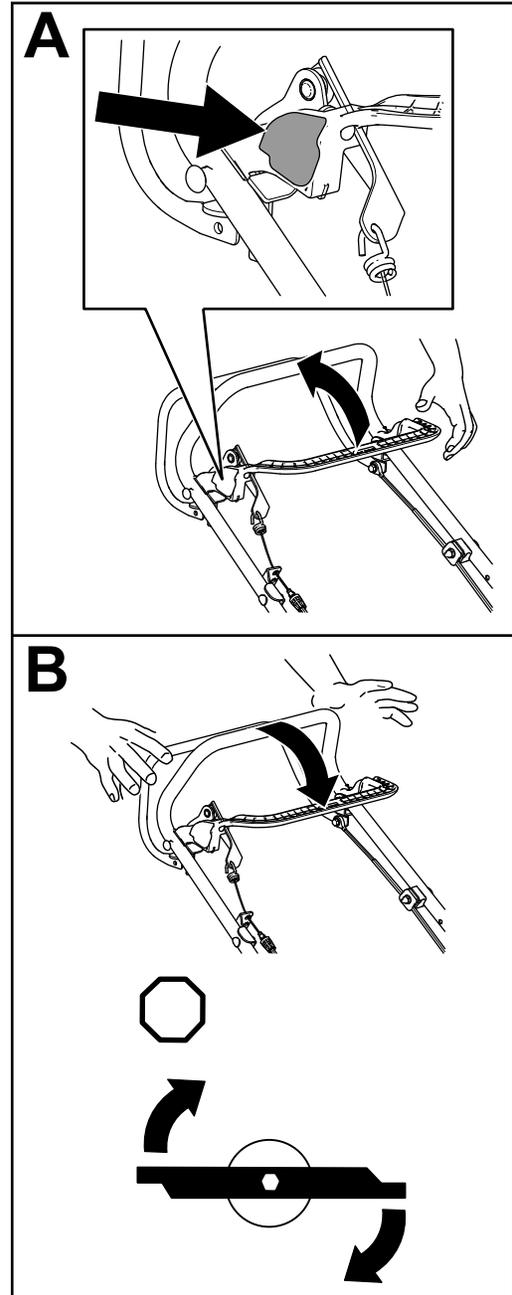

Figure 19
1. Press and hold the blade-control lock-button to engage with the blade-control bail (A of Figure 19).
2. While holding the button, pull the blade-control bail to the handle; the blade should engage (A of Figure 19).
3. Release the blade-control bail to disengage the blade (B of Figure 19). The blade-control lock-button resets.